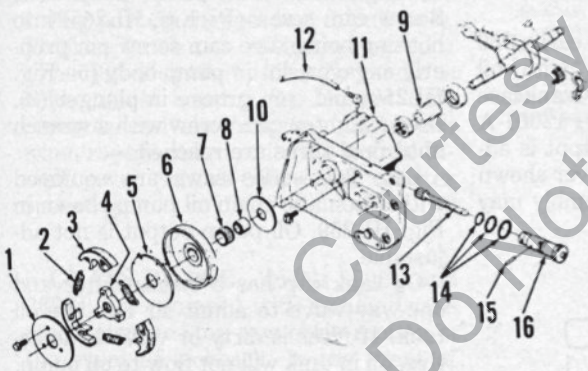

Fig. HL259—Exploded view of oil pump assembly used on later 360 series and clutch used on some later 360 models.
Fig. HL265—Oil line fitting (O) must be pointing towards 8 o'clock position and oil line routed as shown. Cam screw (P) must be installed carefully on models so equipped to insure proper meshing with cam in plunger (2—Fig. HL259).
CLUTCH. Models are equipped either with the three-shoe centrifugal clutch shown in Fig. HL259, HL260 or HL261 or a 1-piece "S" configuration clutch similar to that shown in Fig. HL262. Clutch may be removed by holding fly-wheel with a 1/4 inch rod (Fig. HL254) and turning clutch hub clockwise as shown in Fig. 263.
CHAIN OIL PUMP. All models are equipped with a plunger type automatic chain oil pump as shown in Fig. HL259 or HL260. The pump is driven by worm (9) on the engine crankshaft.
Late 360 series saws are equipped with automatic chain oil pump shown in Fig. HL259. Oil pump output is not adjustable.